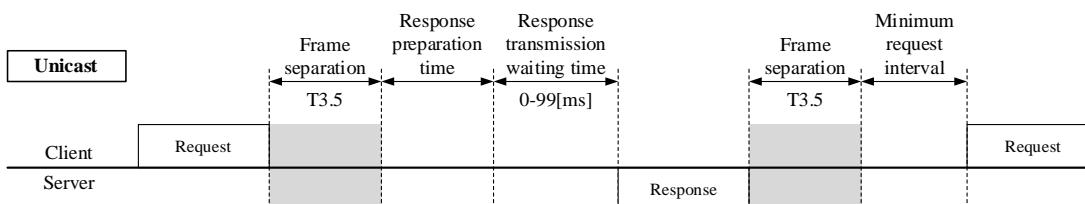
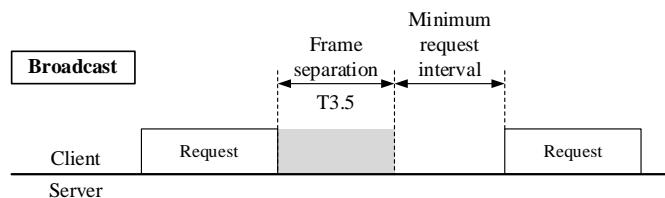

Figure 5-1 Unicast
Figure 5-2 Broadcast
* See Figure 5-1 and Figure 5-2 for the definition.
T3.5 is 3.5 times longer than T1. This time depends on the baud rate. Table 5-2 shows the T3.5 silent interval for each baud rate. Additionally, Figure 5-1 shows an example of unicast request and response between the client and the server.
When issuing a request to all servers (broadcast), each server only processes the request and does not return a response. The transmission interval of the client must comply with the minimum request interval specified in Table 5-1 Transmission specifications. Figure 5-2 shows an example